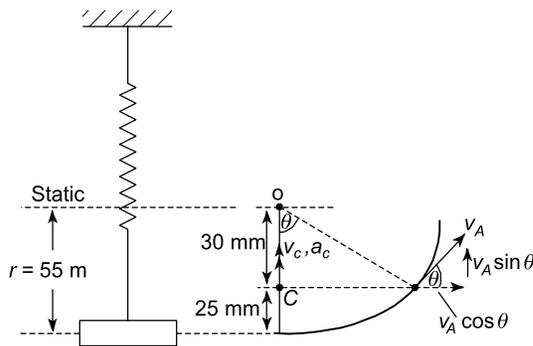

Figure 18.4
**Problem 1.** A mass of 1.5 kg is attached to a vertical spring, as shown in Figure 18.4. When the mass is displaced downwards a distance of 55 mm from its position of rest, it is observed to oscillate 60 times in 72 seconds. Determine (a) periodic time (b) the stiffness of the spring (c) the time taken to travel upwards a distance of 25 mm for the first time (d) the velocity at this point.
(c) From Figure 18.4,  $\cos \theta = \frac{(r - 25)}{r}$
(d) Velocity at C in Figure 18.4,